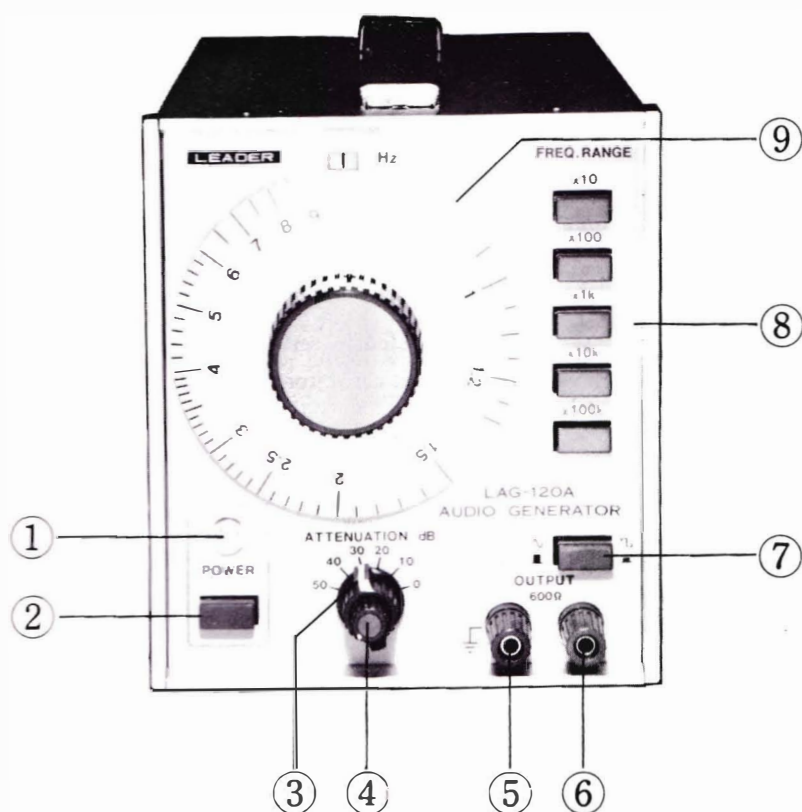

Fig. 1-1 Front panel functions.
1.3.1 Front Panel, Fig. 1-1:
- ① Pilot lamp: Indicates when the power is on.
- ② POWER switch: Push-push type for turning on the AC power.
- ③ ATTENUATION dB: 6 step (10, 20, 30, 40, 50dB)
- ④ VARIABLE: Continuously adjustable.
- ⑤ OUTPUT terminals: Black for ground connection; red for high potential, or "hot" side.
- ⑥ Switch for output waveform selection, sine or square, as marked.